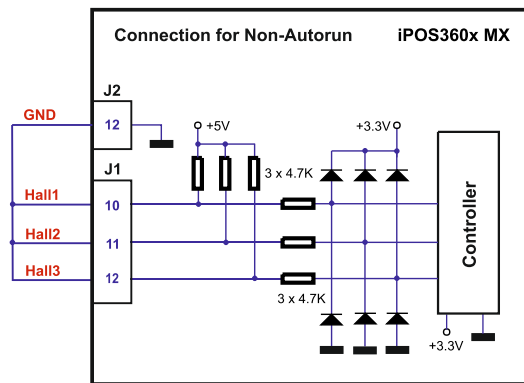

Figure 3.24. Temporary connection during power-on to disable the drive from Autorun mode
- Hardware: connecting all digital Hall inputs to GND, as shown in **Figure 3.24**. This option is particularly useful when you are unable to establish communication with the drive.